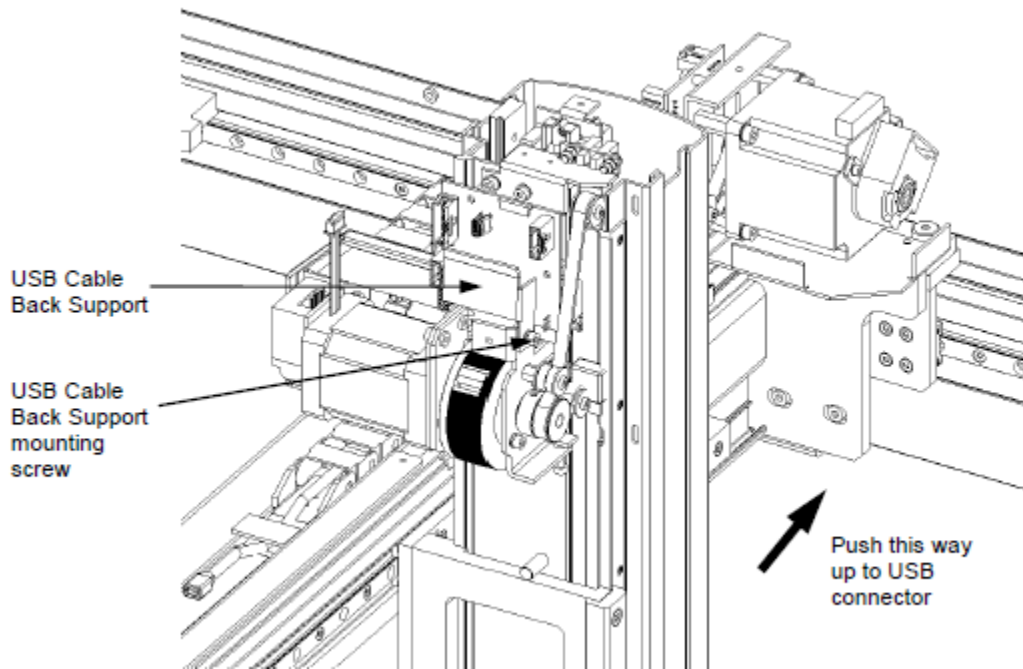

Figure Z-8: USB Mounting Screw
9. Remove the USB connector by loosening its mounting screw (Figure Z-8).